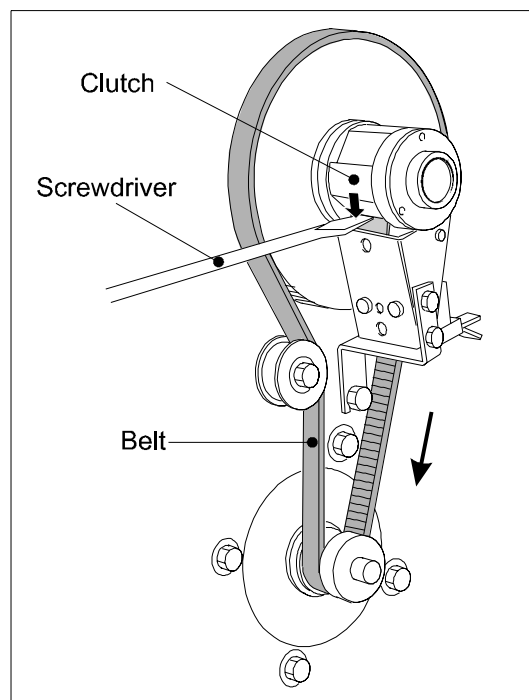

Figure 3.5 - Manual clutch release.
4. On the right hand side of machine there is a large aluminium cam, the side jog actuating cam, which also has a ball race fitted, also the stapling head actuator. This cam has to match the sprocket on the left hand side. To achieve this, turn machine over by hand by releasing the clutch, see figure 3.5, until both ball races come into contact with their activating levers simultaneously. If needed adjust the aluminium cam.